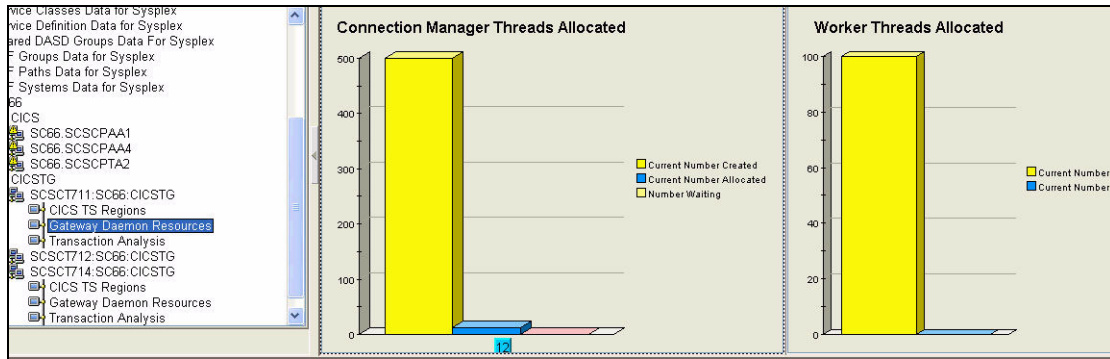
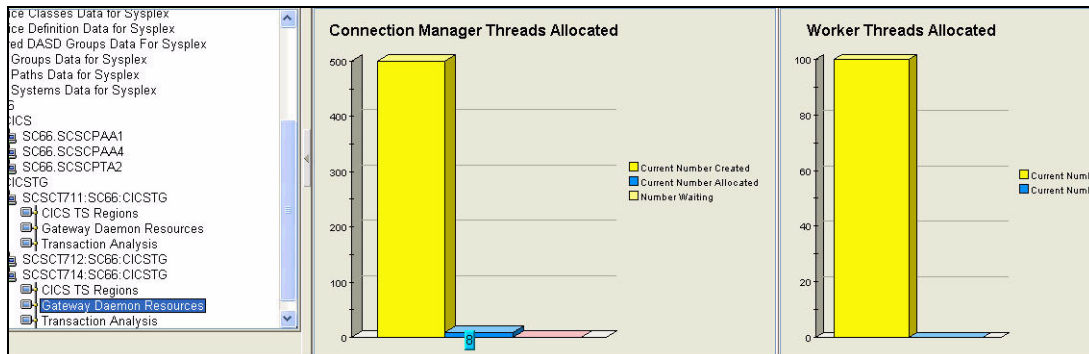

Figure 7-5 CICS TG SCST711 - after the run
Figure 7-6 CICS TG SCST714 - after the run
1. In terms of Connection Manager threads, we saw that we had twelve threads allocated to SCST711 (Figure 7-5) and eight threads to SCST714 (Figure 7-6). This indicates that socket connections were now actually allocated from WebSphere to each Gateway daemon.